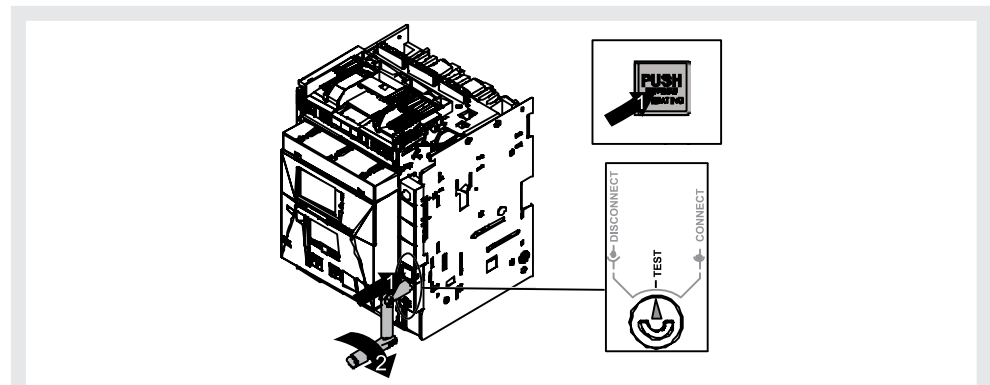

Figure 45
6. Turn the crank clockwise until the pushbutton comes out and the indicator shows that the circuit-breaker is in **TEST** position. See Figure 45.